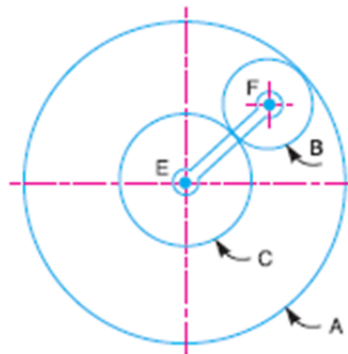

Figure 2
- (b) An epicyclic gear consists of three gears A, B and C as shown in Figure 2. The gear A has 72 internal teeth and gear C has 32 external teeth. The gear B meshes with both A and C and is carried on an arm EF which rotates about the centre of A at 18 rpm. If the gear A is fixed, determine the speed of gears B and C. [BL: Apply| CO: 6|Marks: 7]